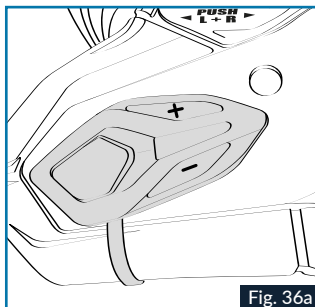
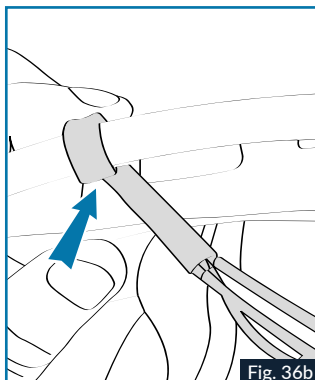

Fig. 36a
Fig. 36b
8. Affix the main keypad to the defined location (Fig. 36a), using the double-sided tape provided on the keypad, insert the flat cable between the shell and the polystyrene cheek piece to the left of the clip lining (red part) as shown in Fig. 36b.